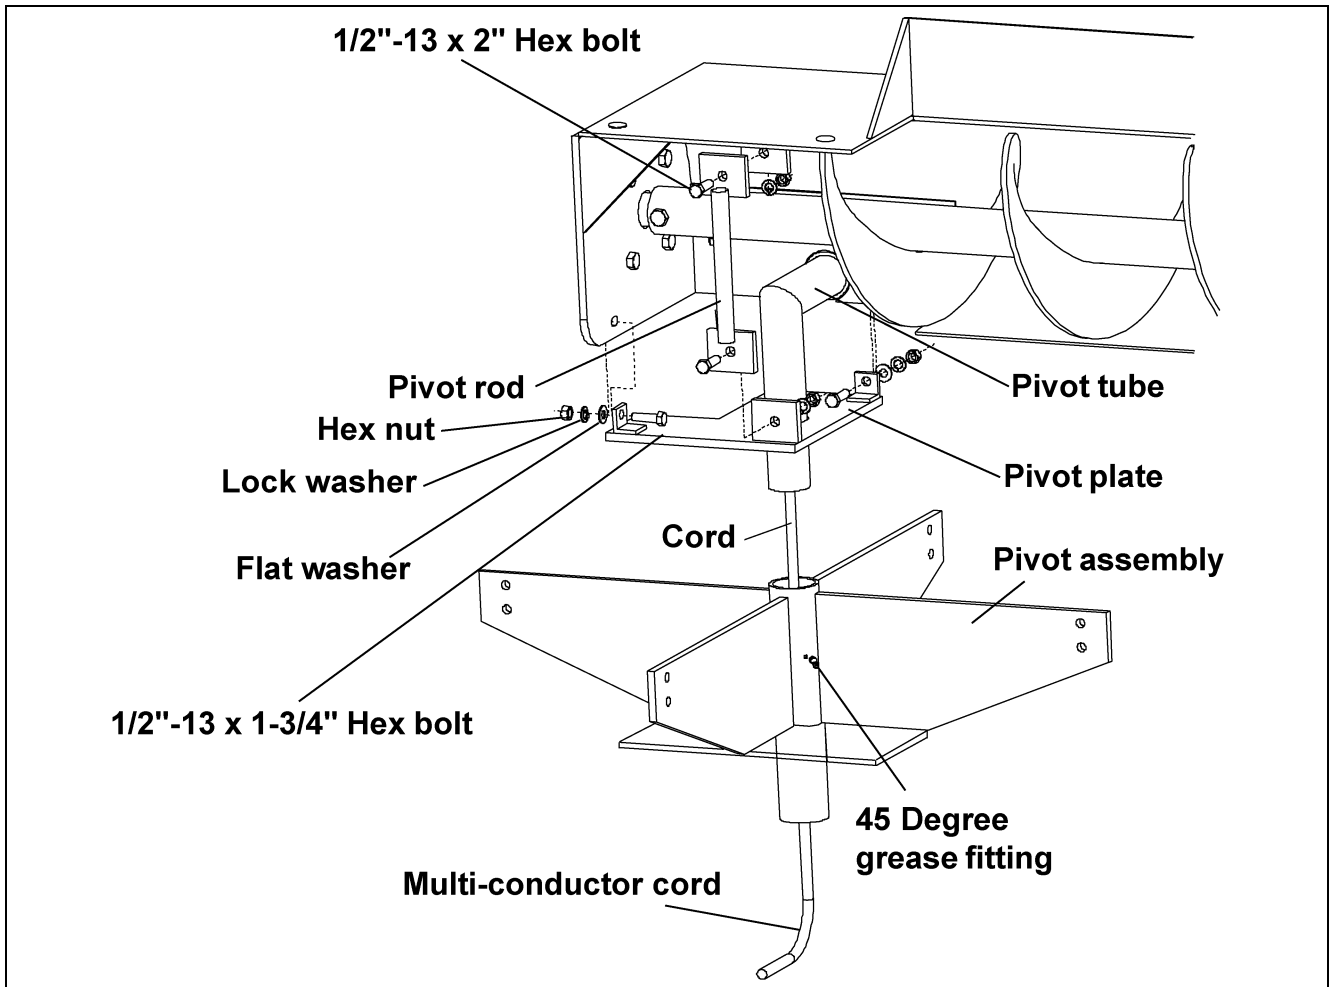

Figure 5AK
7. Screw the 45 degree grease fitting into the pivot assembly pipe. (See Figure 5AK.)
8. Connect the 1" x 48" liquid-tight flex conduit to the pivot tube using one (1) 1" conduit coupling and one (1) 1" liquid-tight flex conduit coupling. (See Figure 5AL.)